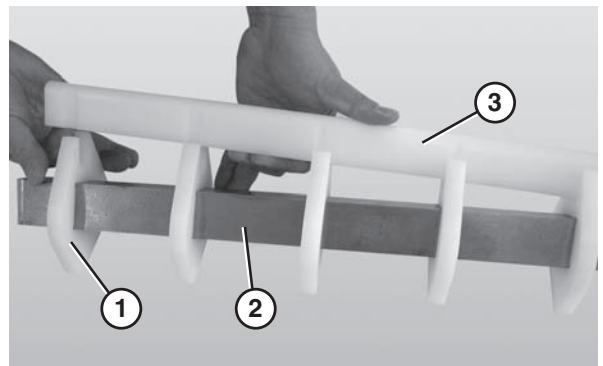

Figure 61
3. Remove the nose bar wear strip (**Figure 61, item 3**).
4. Slide the nose bar pucks (**Figure 61, item 1**) off the nose bar shaft (**Figure 61, item 2**).